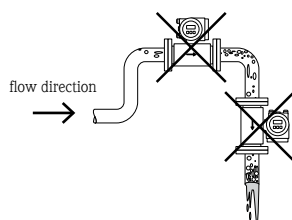

Figure 1
- Installation at the top of a piping system causes a risk that air will collect and negatively influence the performance (Fig.1)